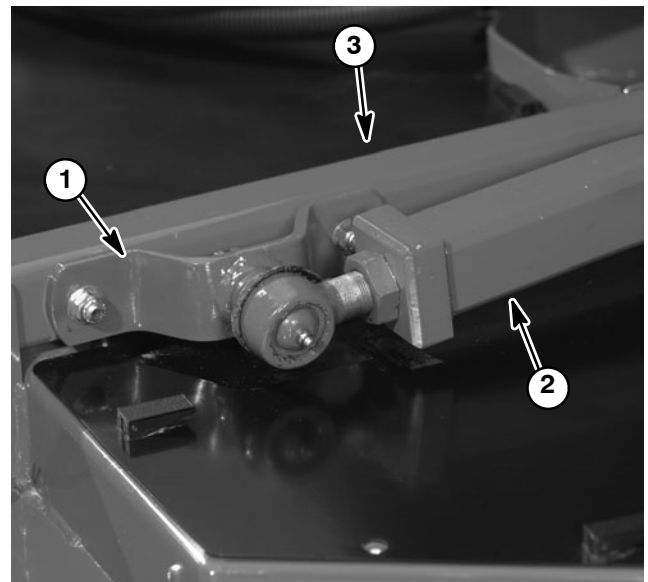

Figure 4
4. Remove cap screws, washers and lock nuts securing ball joint mounts to front deck castor arms (Fig. 4).
3. Align ball joint mounts to front deck castor arms and secure with cap screws, washers and lock nuts (Fig. 4).